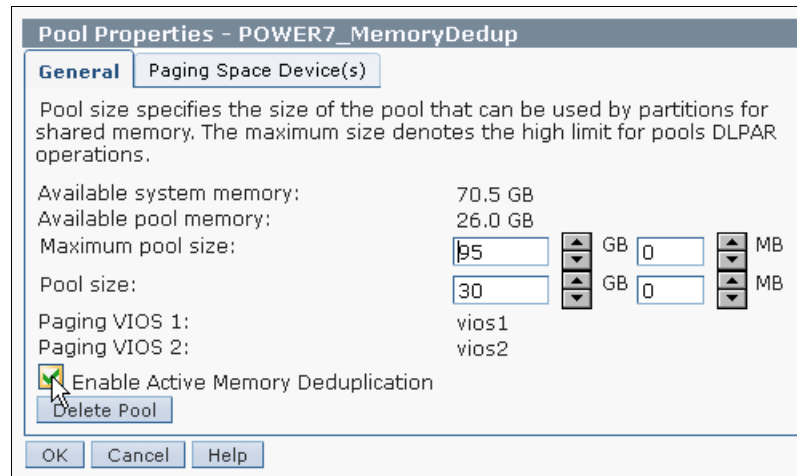

Figure 15-11 Enabling Active Memory Deduplication from HMC Pool Properties
3. In the Pool Properties window (Figure 15-11), check the **Enable Active Memory Deduplication** check box. Click **OK**.